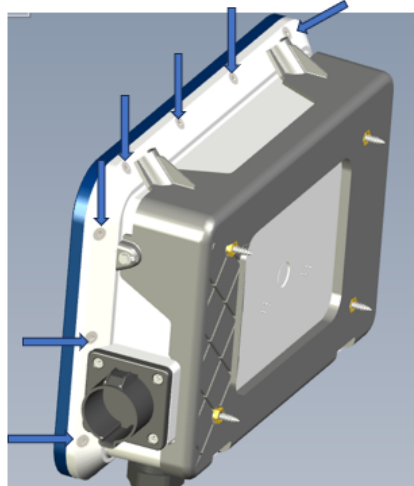

Figure 16: Installing Tamper Resistant Cover Screws to Completed assembly
3. Install tamper resistant cover screws provided (M5x0.8mm) to back of enclosure cover with T25H driver as shown in Figure 16: Installing Tamper Resistant Cover Screws to Completed assembly.